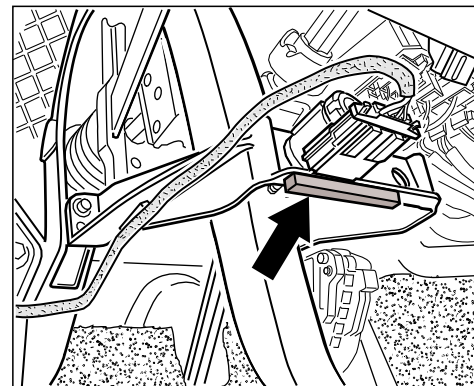

Figure 2
4.2 For left-hand drive vehicles, stick the foam rubber strip **left-aligned** onto the surface of the brake light switch retainer (⇒ *Figure 2 -Arrow-*).